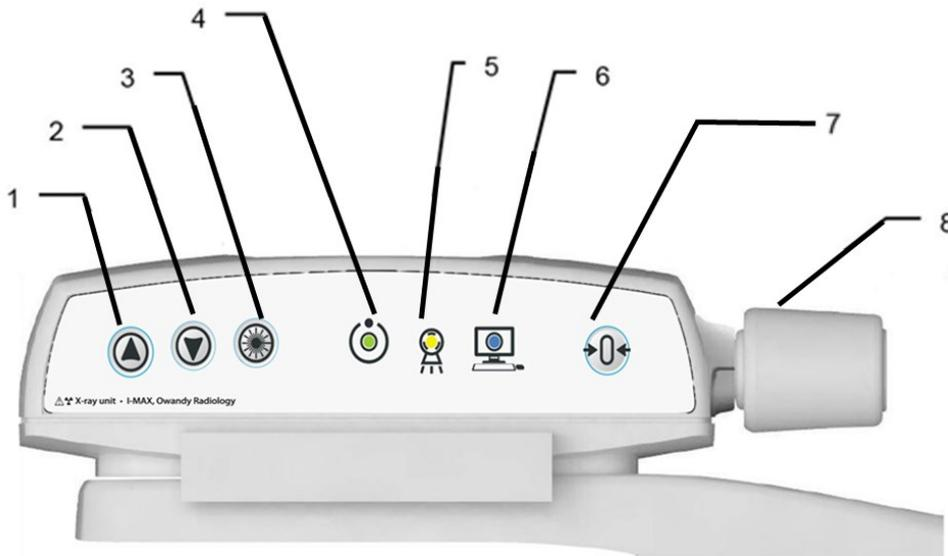

Figure 9: Keyboard
2. Press the power switch located on the upper part of the equipment on the operator side to position "1". This will start the "CHECK" function, which is indicated by the LEDs lighting up. When the "CHECK" function is complete, the green LED (3 - Figure 9) on the equipment keyboard starts blinking.
4. Run the "GUI" on the PC and wait for the connection between the PC and equipment; this status is indicated by the blue LED on the equipment (5 - Figure 9) and on the GUI lighting up.
Figure 9 shows a general view of I-MAX control Interface.
Ready for X-ray status is signalled by the green LED on the equipment (3 - Figure 9) and on the GUI lighting up.
I-MAX assumes that the digital sensor is ready: if this is not the case, the blue light indicator of "Computer connection" status (5 - Figure 9) start blinking slowly.